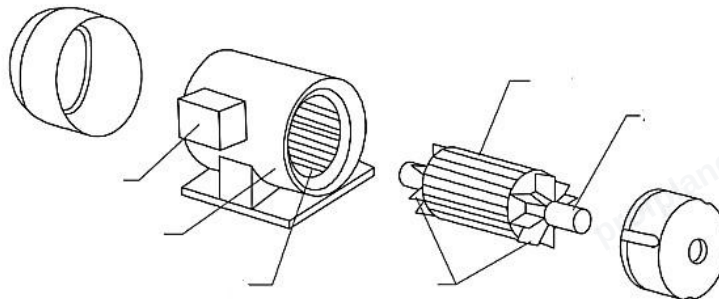

Figure 1
- ii. Disassemble the motor provided as shown in Figure 1, Identify the following motor parts and label;